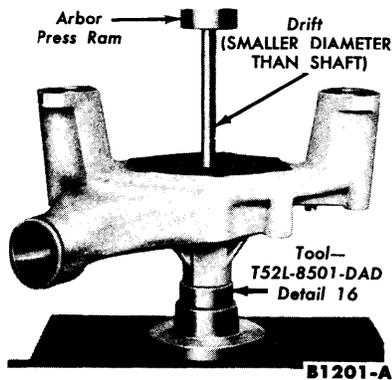

FIG. 2—Shaft Removal
2. Position the pump on an arbor press and press the shaft off the impeller and out of the housing (Fig. 2).